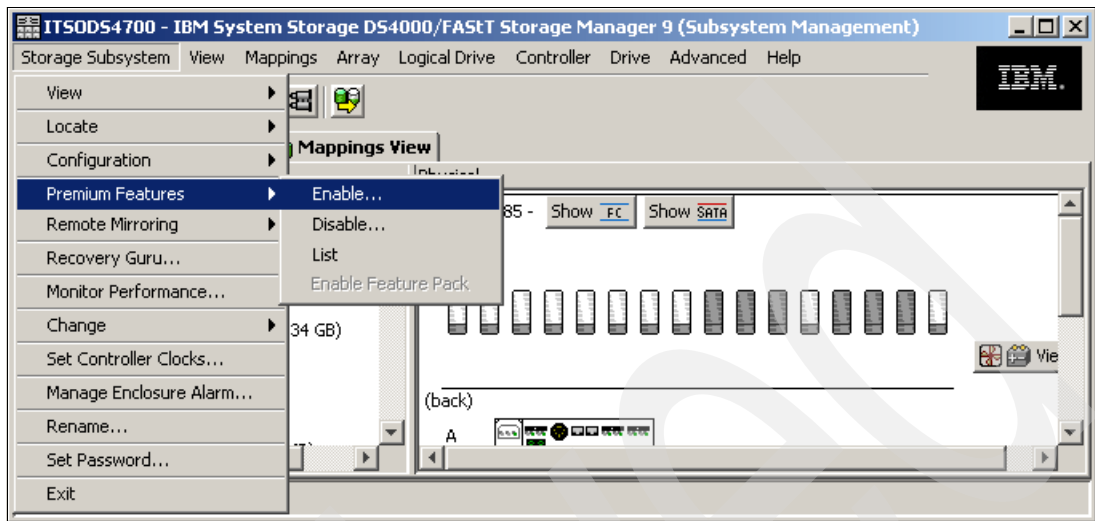

Figure 9-21 Option to enable a premium feature
- Once you have received the key file, go to Storage Manager and click **Storage Subsystem** → **Premium Features** → **Enable** in the Subsystem Management window, as shown in Figure 9-21.